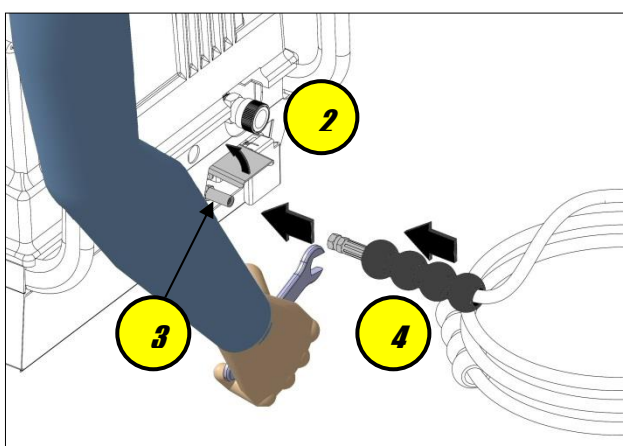
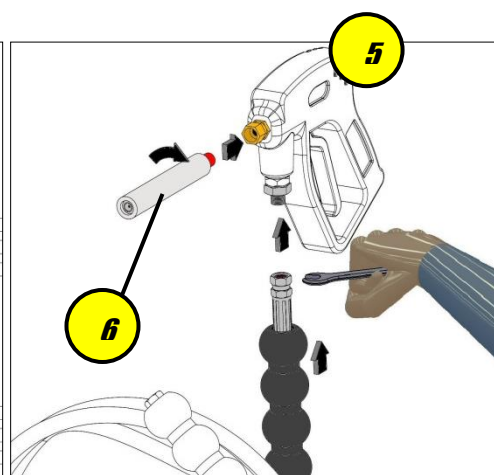

Figure 05
Figure 06
MACHINE: Raise the burn-saver metal door 2 (fig.05) and connect the steam hose to the LEFT outlet 3 (fig. 05) tightening the nut using a 19mm wrench. Cover the coupling with the rubber protective cover 4 (fig.05).
HOSE: Attach the steam-gun 5 to the hose (fig.06) tightening the nut with a 19mm wrench. Shift the rubber protection 4 onto the brass fitting to prevent burns (fig. 05).
2. Turn the nozzle on the lance (fig.05) counterclockwise (-) until pressure is low enough to suck detergent.